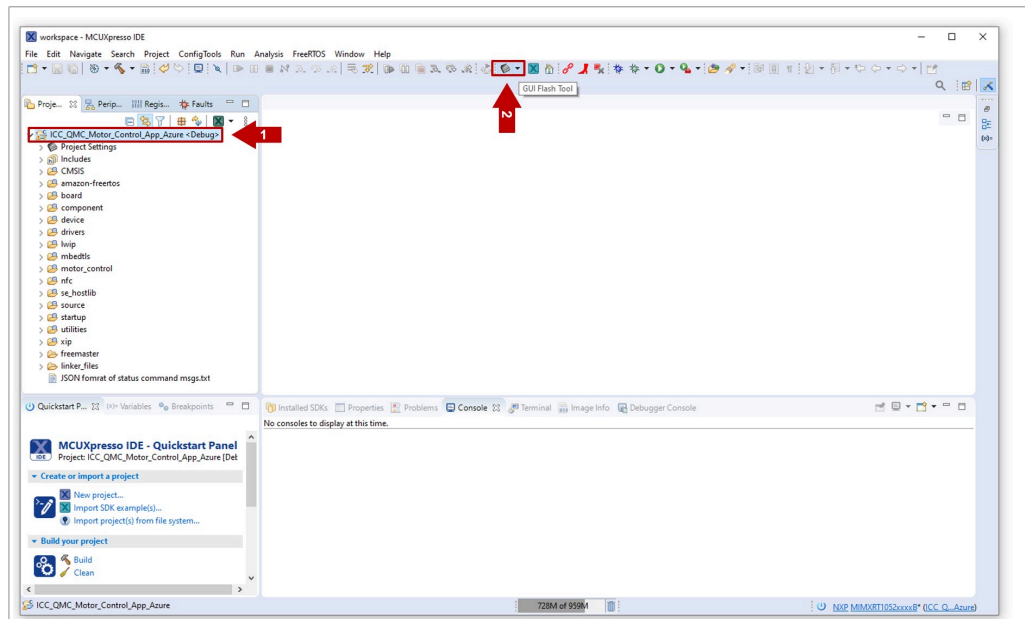

Figure 19. Open GUI Flash Tool
1. Select the project (1) and open the GUI Flash Tool (2) by clicking the icon in the top bar menu and selecting **Connected**, as shown in Figure 19: